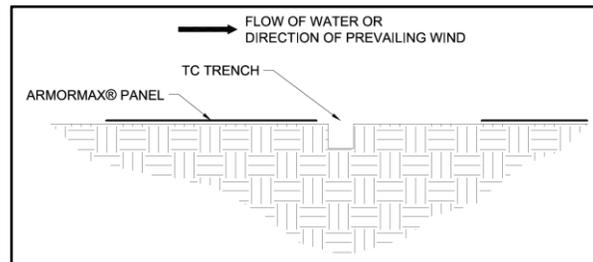
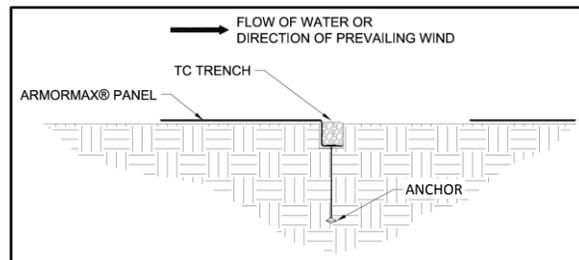

Figure 17: Terminal Channel (TC) Trench Alignment
Figure 18: Terminal Channel (TC) Trench Placement
- Lay the ARMORMAX panel on the upstream side of the TC trench (Figure 17). Place the panel edge in the TC trench, ensuring full coverage along the bottom of the entire TC trench with the ARMORMAX (Figure 18).
- Secure ARMORMAX with pins and ANCHORS in the TC trench. Suggested placement of pins and anchors for the TC trench is along the bottom of the trench with pins on 12 in (300 mm) centers in between anchors on 5 ft (1.5 m) centers (Figure 18).